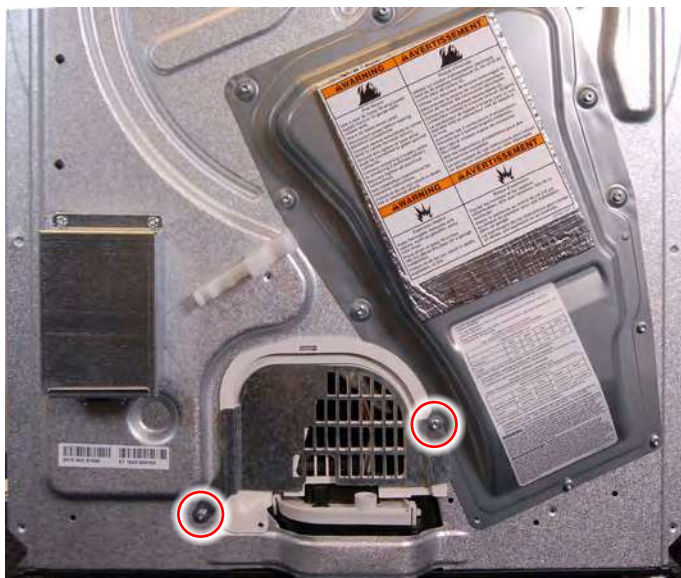

Figure 4
12. Use a T20 Torx driver to remove the two (2) screws securing the access cover bracket to the back panel (as illustrated in Figure 4). Remove cover bracket and set aside.